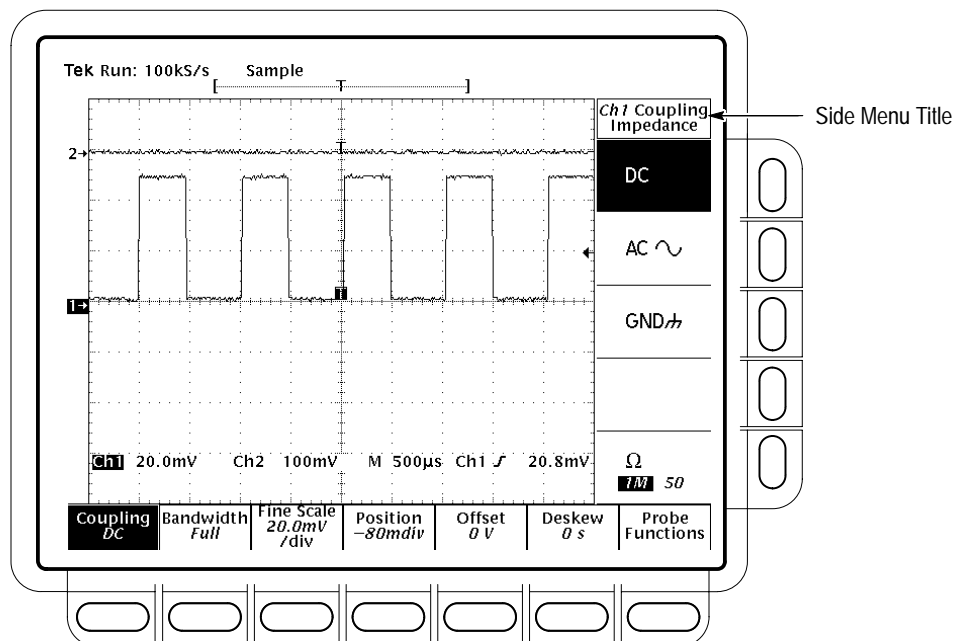

Figure 2–13: The Menus After Changing Channels
4. Press **MEASURE** to display the Measure main menu. (See Figure 2–14.)